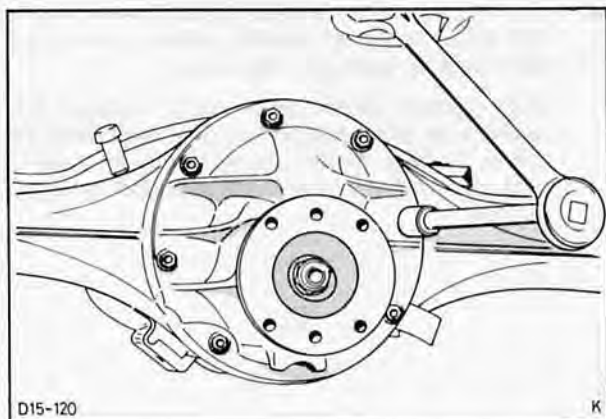

Fig. 96. Attachment of differential and axle casing
6. Remove differential assembly from rear axle (8 bolts), Fig. 96.